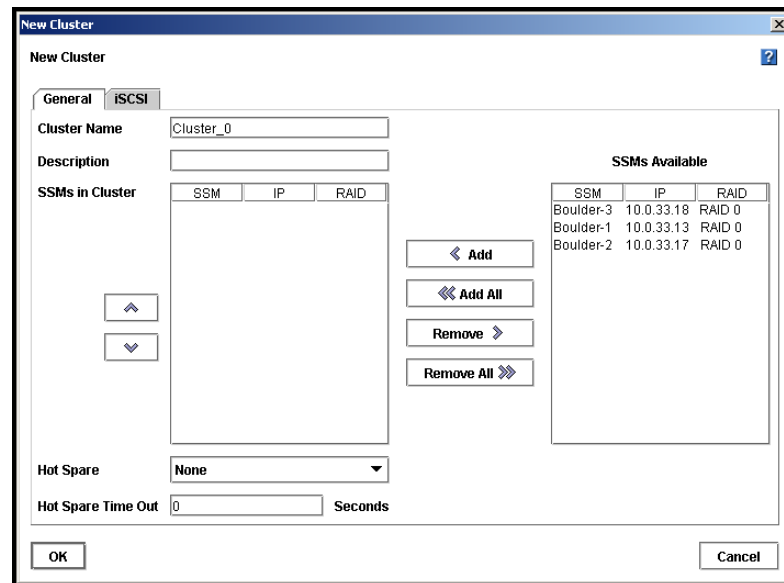

Figure 152. Creating a New Cluster
3. From the Tasks menu, click New Cluster. The New Cluster window opens with the General tab on top, shown in Figure 152.